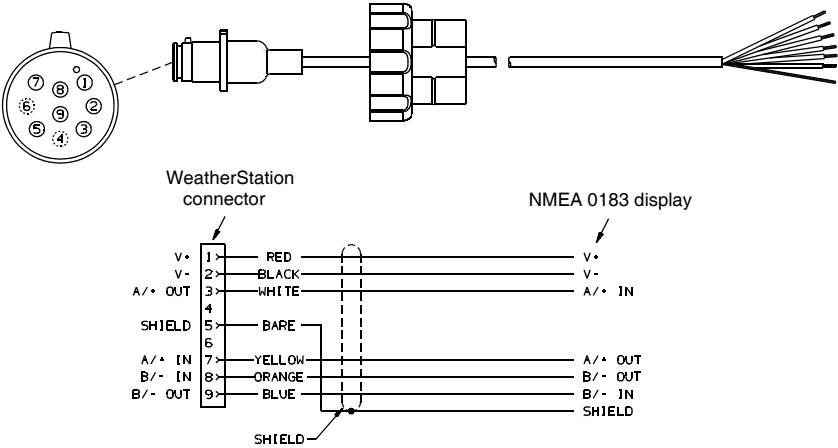

Figure 6. Wiring diagram to connect to an NMEA display
- **No connector**—If your WeatherStation instrument does not have a connector on the display end, it must be hard wired. Refer to the owner's manual that came with your display and connect the colored wires as shown in the table below and Figure 6.
2. Strip 60 mm (2-1/2") of the outer jacket and foil shielding from the cut end of the cable (see Figure 6).
5. Connect the wires to the display (see Figure 6).